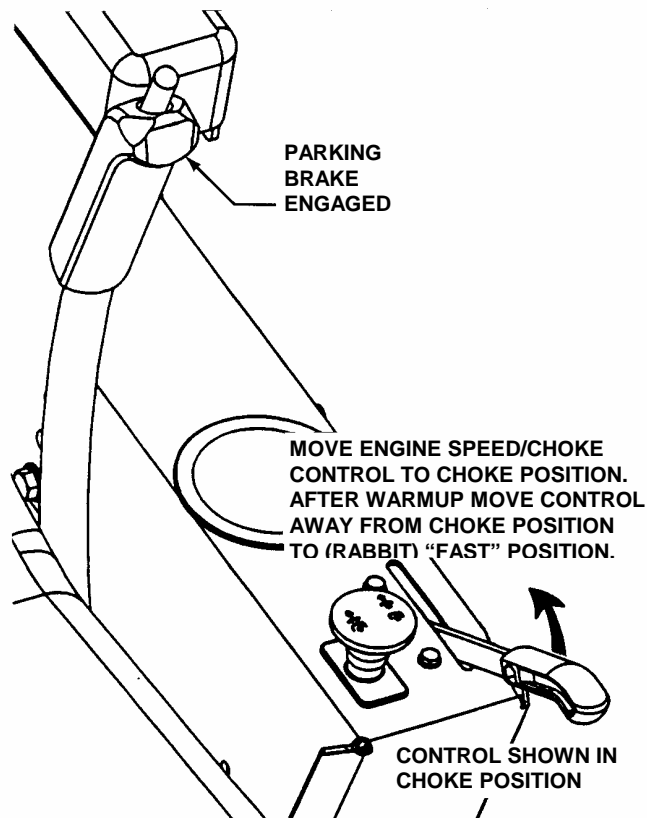

FIGURE 2.6
3. Make certain the parking brake lever is engaged. See Figure 2.6.
4. Move engine speed control to the choke position to start a cold engine. See Figure 2.6.